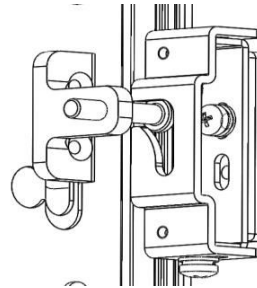

Fig. 7
2)The lock is debugged before leaving the factory. If the dead bolt does not smoothly engaged with the striker as Fig. 7, the striker can be adjusted up and down as Fig. 8.